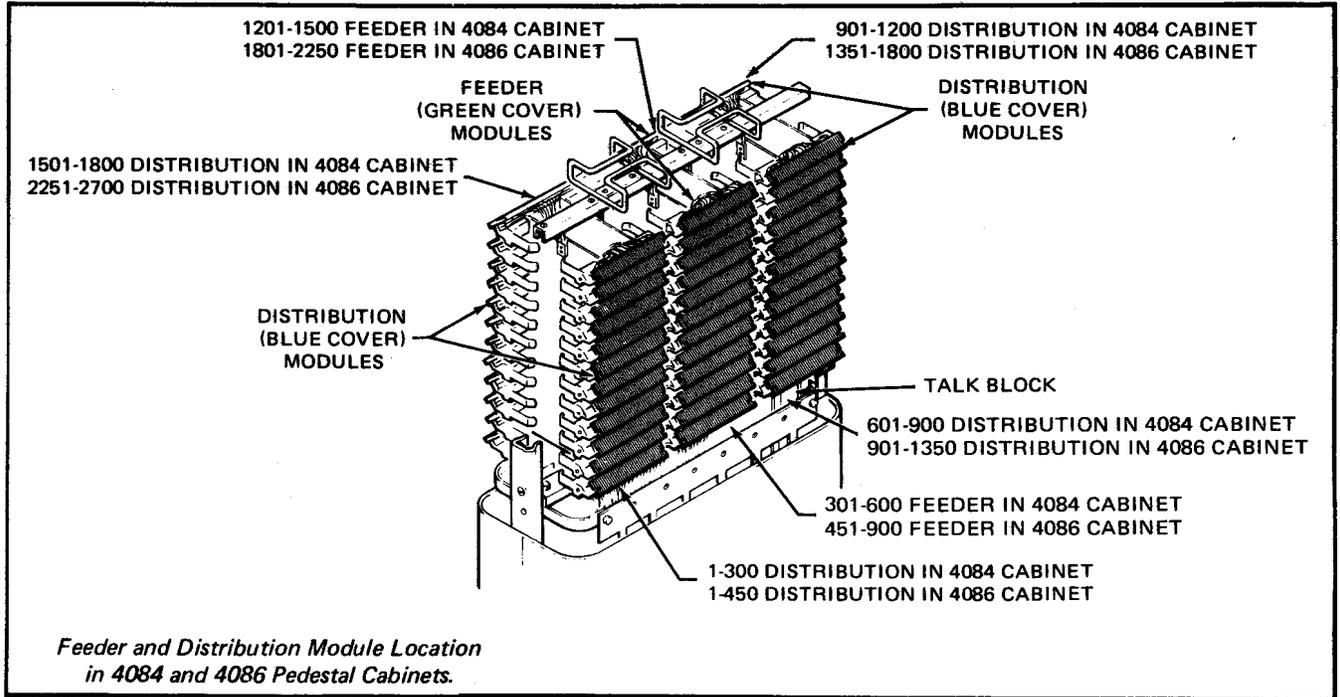

Fig. 33
(b) Fig. 33 — revised
4.06 *Note:* Stencil the pairs in the interface using the binding post method. Fig. 33 illustrates the procedure for the 4084 and 4086 interfaces.